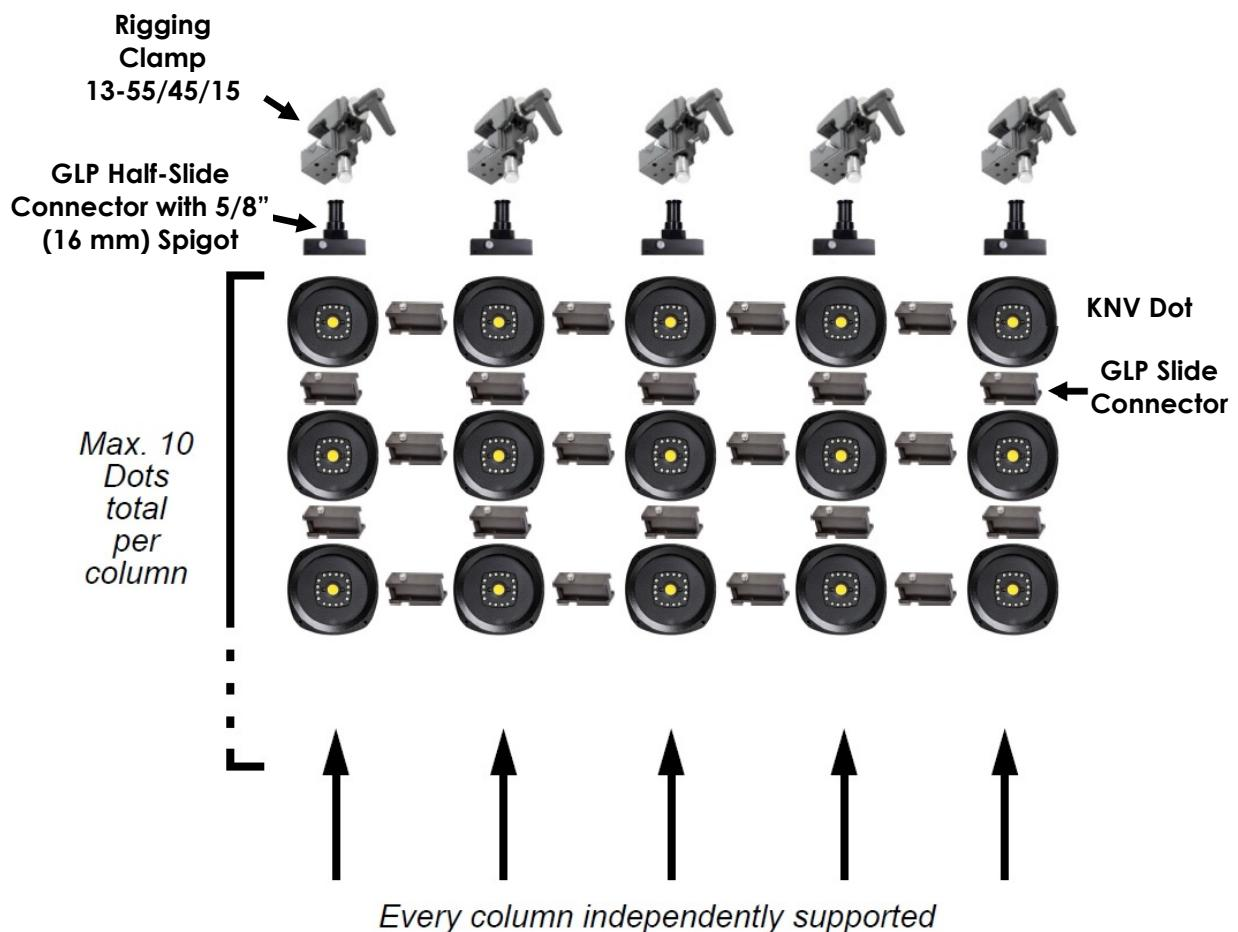

Figure 15. KNV Dots array, each column independently supported
1. See Figure 15 on page 29. For each column in the array, obtain either: